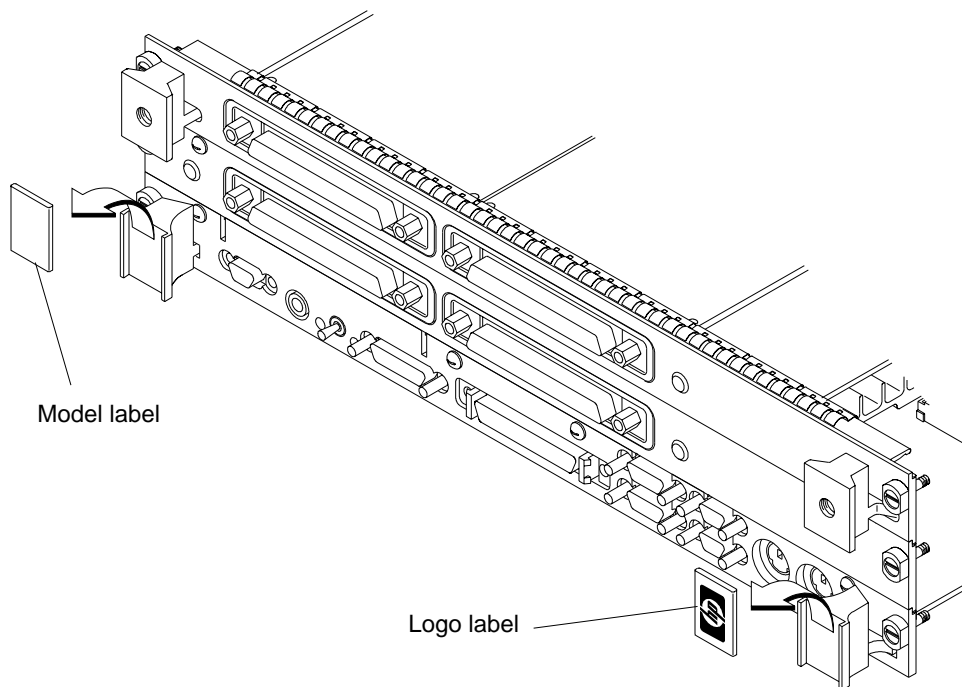

Figure 11 **Removing Ejector Handle Labels**
- a** Remove the logo and model labels from the ejector handles on your board computer, as shown in Figure 11.